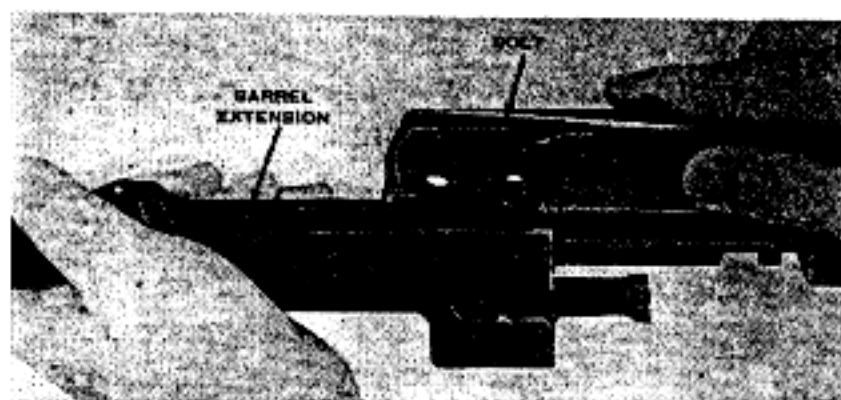

Figure 30. Assembling the bolt to the barrel and barrel extension.
- (1) Headspace adjustment can be made before the recoiling groups are assembled into the receiver. However, the adjustment should be checked after the gun is assembled.
- (2) Screw the barrel and barrel extension together until the rear of the barrel is flush with the inside of the barrel extension.
- (3) Remove the extractor from the bolt. Place the bolt in the bolt guides of the barrel extension and push the bolt fully forward (fig. 30).